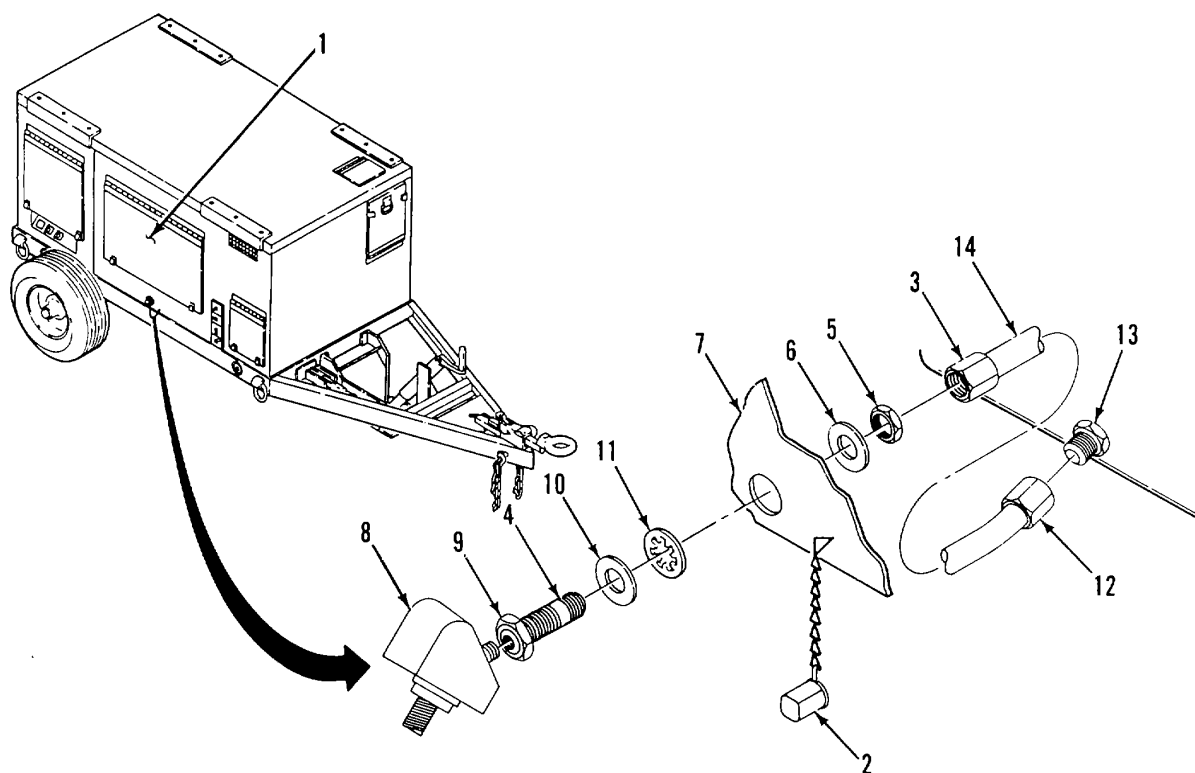

Figure 2-27. Engine Oil Drain Line
a. REMOVE. (Figure 2-27)
- (1) Open engine access door (1).
- (2) Remove cap (2) and drain oil from engine. Refer to LO 10-4320-315-12.